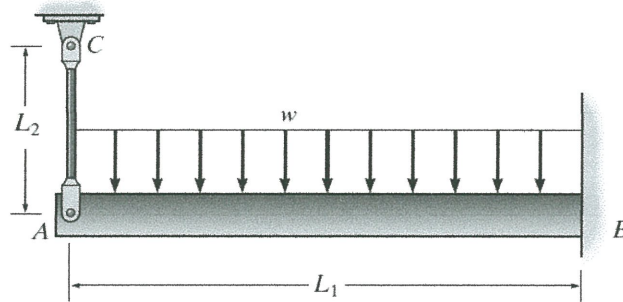

FIGURE Q2
- Q2** The beam has a constant $E_1 I_1$ and is supported by the fixed wall at *B* and the rod *AC* as shown in **FIGURE Q2**. If the rod has a cross-sectional area A_2 and the material has a modulus of elasticity E_2 ,